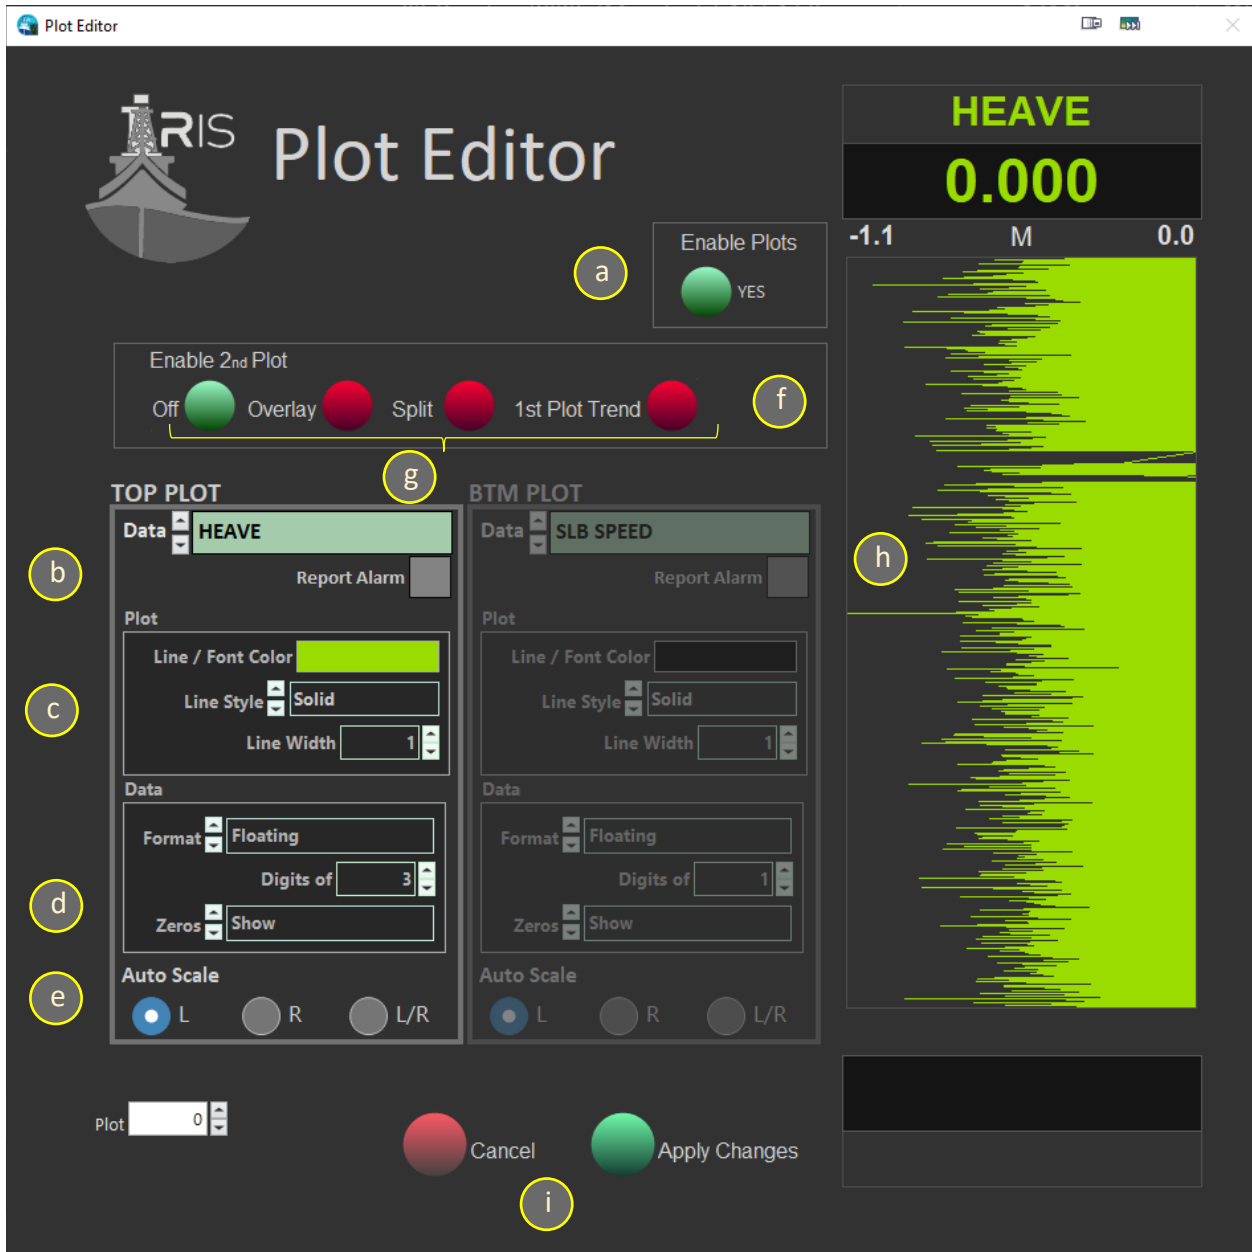

Figure 14. iRIS Plot Editor Window
- a. Click “Enable Plots” to activate the graphing function. Click a second time to deactivate the plot. *See Figure 14 above*